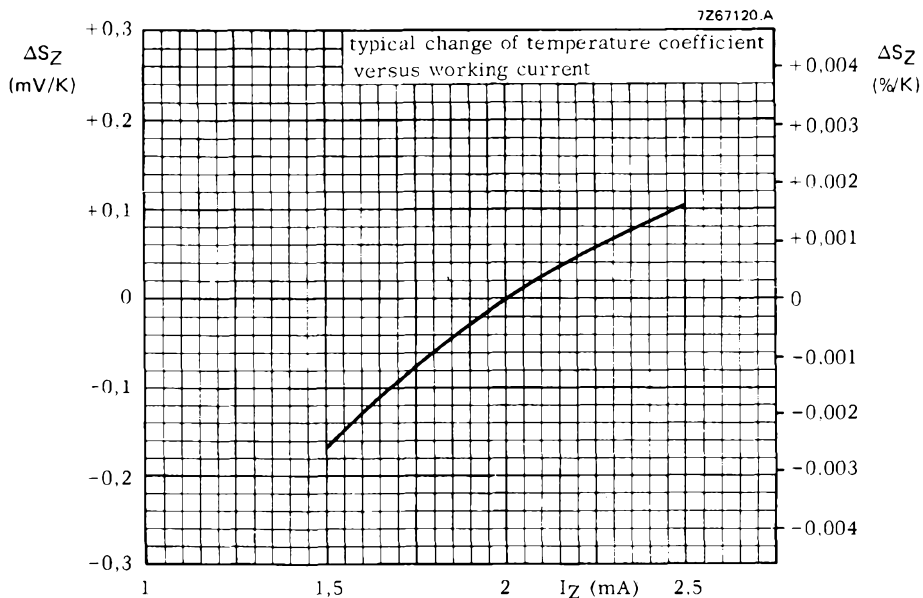

Fig. 3 Typical change of temperature coefficient.
\* For accuracy of  $I_Z$  see Fig. 3.
b. The temperature coefficient of the reference voltage  $S_Z$  is a function of  $I_Z$ . Reference diodes are classified at the specified test current and the  $S_Z$  of the reference diode will be different at the different levels of  $I_Z$ . The absolute value of  $I_Z$  is important, however, the stability of  $I_Z$ , once the level has been set, is far more significant. This applies particularly to the BZV13 and BZV14. The effect of  $I_Z$  stability on  $S_Z$  is shown in Fig. 3.